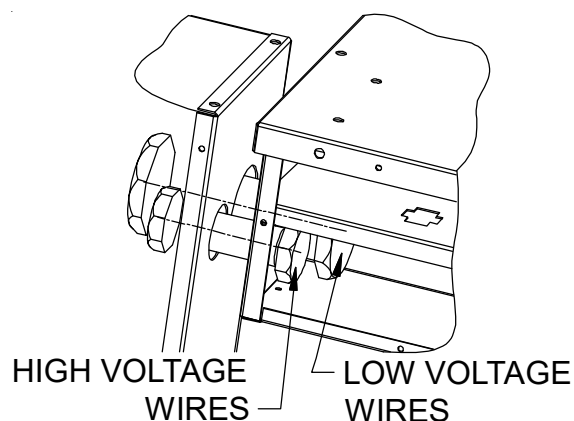

Figure 1
- Secure the high voltage and low voltage conduits to the heat kit electrical panel using the supplied plastic bushing nuts as shown in Figure 1.